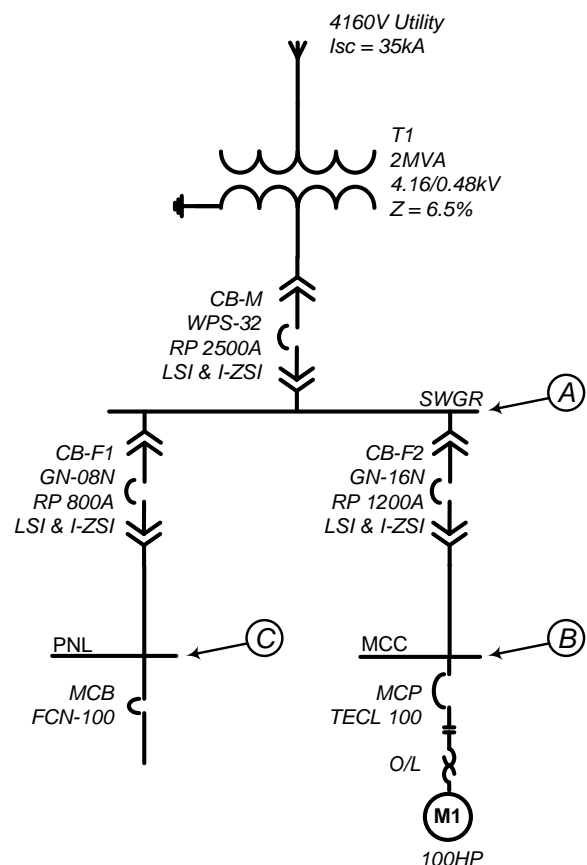

Figure 6: Simplified One Line Diagram of the case study.
The following case study will quantify the benefits of zone selective interlocking with instantaneous protection enabled and the waveform recognition features of the EntelliGuard TU trip unit. Figure 6 is a simplified one line diagram of the system that was analyzed.
1. Refer to Figure 6 for locations A, B & C.